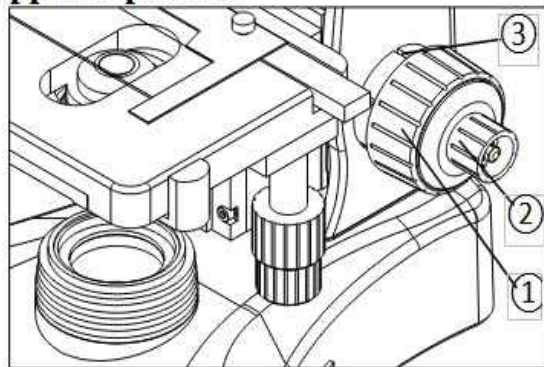

Fig.18
3.3.3 Focusing the specimen(Fig.18、 19)